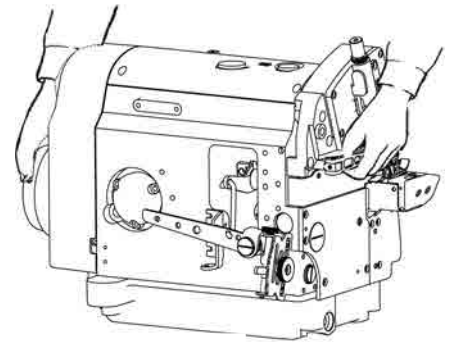

Fig.3
2. To carry the machine, hold the machine pulley tightly with your right hand and the machine arm with your left upper arm. If the machine and/or your hands are stained with oil, the machine may be easy to slip out of your hands and fall to the floor. Therefore, wipe off the oil carefully.(Fig.3)